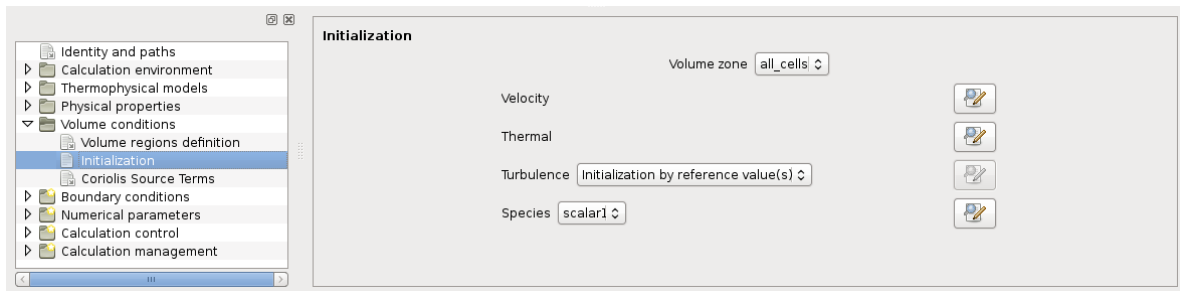
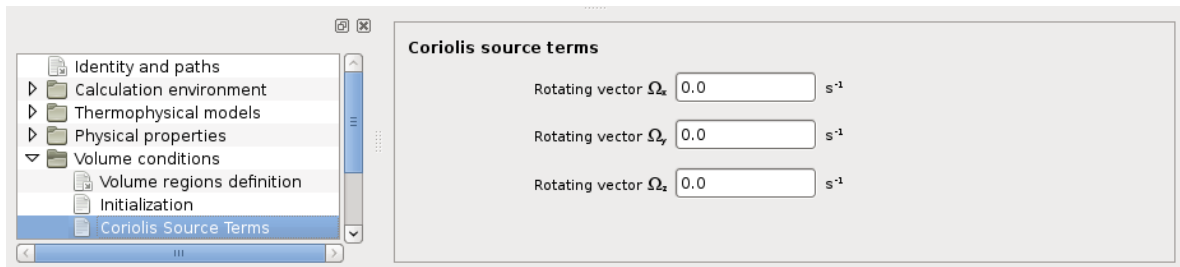

Figure 18: Initialisation of variables
Figure 19: Setting of the Coriolis source term
- Volume conditions: definition of volume regions (for initialisation, head losses and source terms, see § 6.6 and § 6.7), initialisation of the variables (including scalars), Coriolis source term, see Figure 18 and Figure 19.